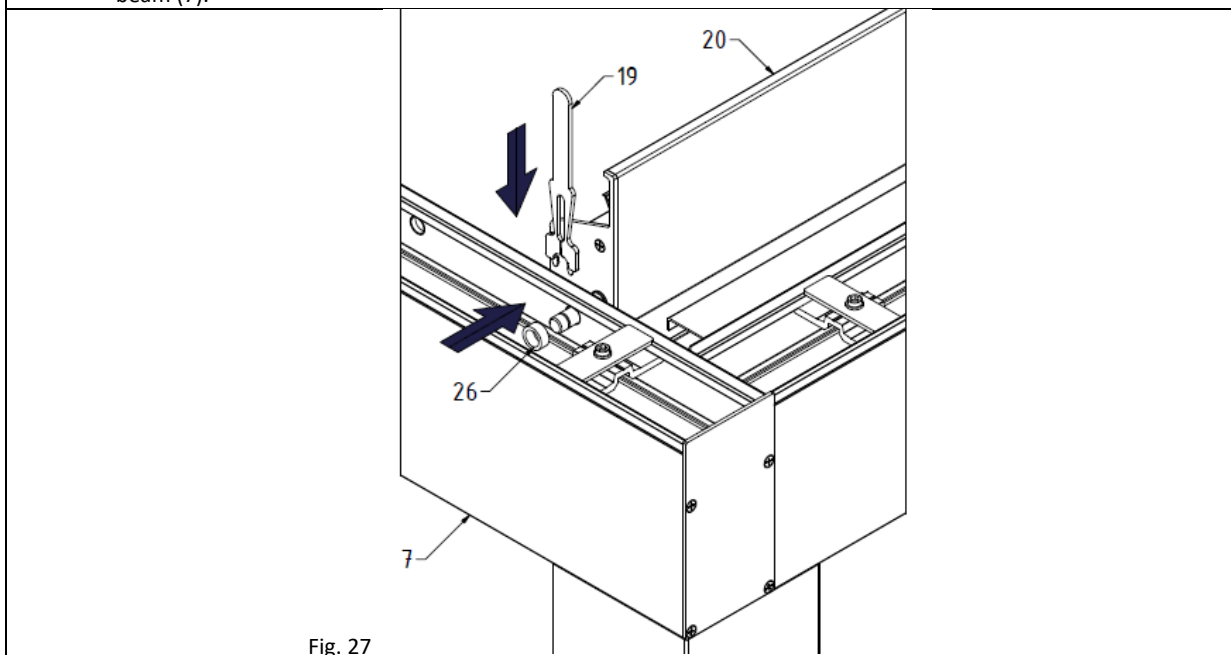

Fig. 27
28. Once all the blades have been fitted, starting with the first blade (20) on the drive side (7), install the spacer sleeves (26) on the inside of the beam at every third blade and secure with DIN 6799 - 10 using the dedicated mounting key (19)-fig.27.
**NOTE: If there is a problem installing and securing the bushing, tighten the tongue to the longitudinal drive beam (7).**